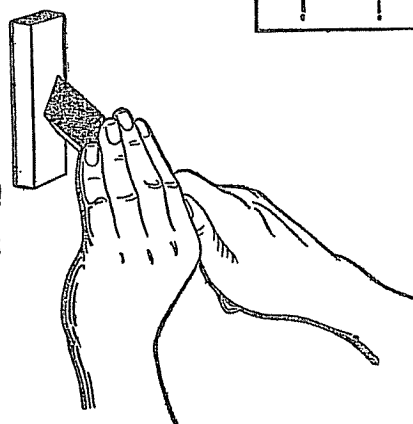

Fig. 12
4. Whetting the chisel should follow the grinding. This should be done on an oil stone, and always see that there is plenty of oil on the stone. (See Fig. 12.)